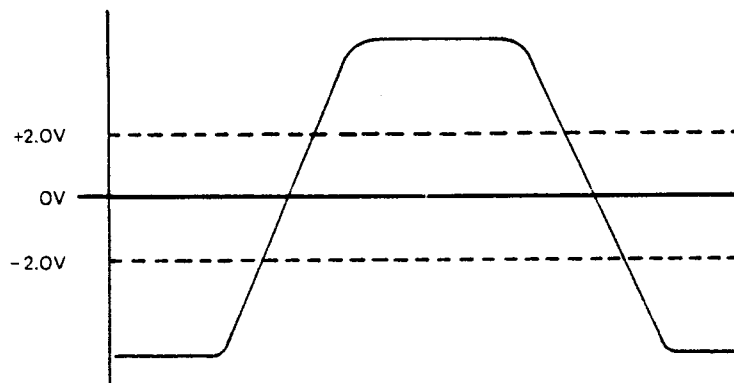

Figure 6-15. Index Signal, TP3, Repetitive Restore Mode
- (1) Select Channel 1.
- (2) Observe that the Index signal at TP3 has a minimum of  $\pm 2.0\text{v}$  transition about ground as shown in Figure 6-15.
- (3) If the waveform observed at TP3 is within limits, perform the Overshoot and Settling Response procedure detailed in Paragraph 6.9.9. If the observed waveform does not fall within the specified limits, perform the adjustments in Paragraph 6.9.8.6.
- (1) Adjust the Index Balance potentiometer R98 to obtain a minimum of  $\pm 2.0\text{v}$  transition of the index waveform about ground as shown in Figure 6-15.
- (2) Ensure that the relationship between SPQCG and SPTIG established in Paragraph 6.9.8.3, Step (3), is maintained.
- (3) Repeat the Index Balance Test Procedure, Paragraph 6.8.5.2.
- (4) Select Channel 1.
- (5) Fully retract the positioner carriage.